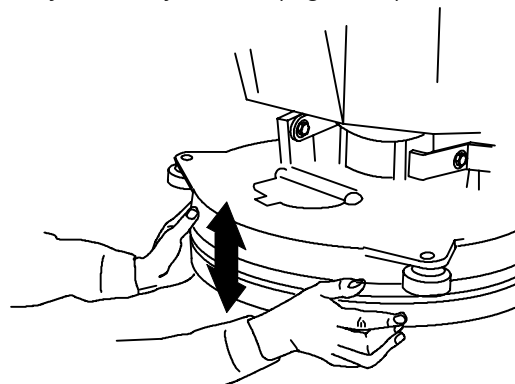

FIG. 71
5. Slightly tighten skirt band screw clamp to allow for easy hand adjustment (Figure 71).